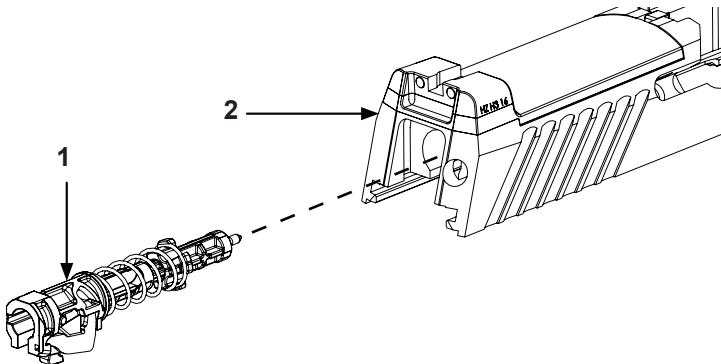

Figure 6. Striker Assembly Removal.
6. Remove striker assembly (Figure 6, Item 1) from slide (Figure 6, Item 2).